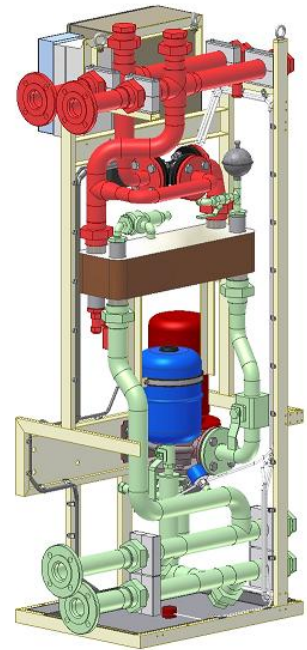

Figure 2.2-1
- Primary circuit, HXL120-PS01 (green colour in the Figure 2.2-1)
- Secondary circuit, HXL120-PS02 (red colour in the Figure 2.2-1)